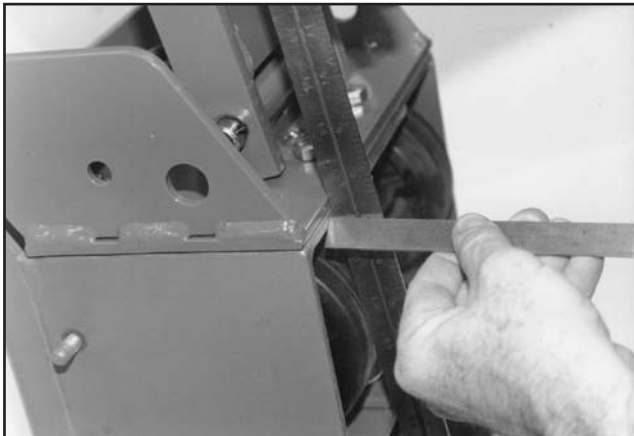

FIGURE 49
6.35 mm). It is important that the straightedge be positioned on both sets of casters in the same relative position on the caster faces. FIGURE 49.